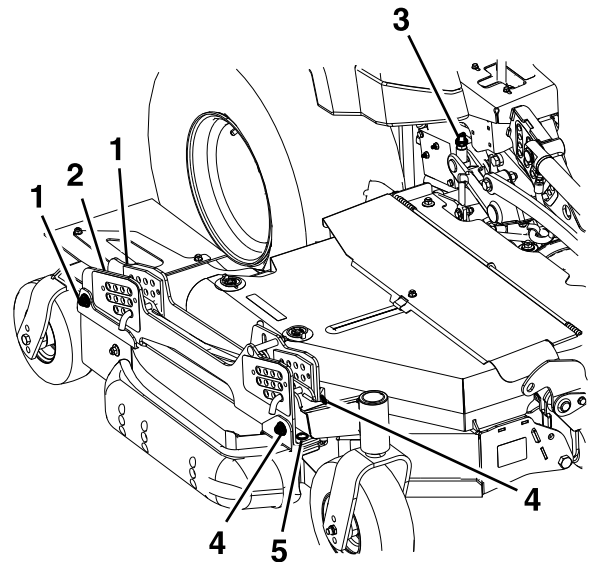

Figure 77
3. The left and right wing decks have blade height adjustments with front and rear adjustment points. To adjust the wing-blade height, first loosen the front and rear height-of-cut hanger mounting nuts. There are 4 locations (2 on each side of the channel) as shown in Figure 77.
- If the deck is too low, tighten the front height-adjustment bolt (Figure 77) by rotating the bottom nut clockwise.
- If the deck is too high, loosen the front height-adjustment bolt (Figure 77) by rotating the bottom nut counterclockwise. Fine-tune the rear adjusters as required.
Adjust the rear wheel height (Figure 77) so that the rear wheel lightly touches the ground with minimal pressure.
4. Measure the back of the wing blades. If either has less than 1.5 mm (1/16 inch) rake, raise the rear of the deck by tightening the left and right rear adjustments (Figure 77) until all 4 blades have a minimum of 1.5 mm (1/16 inch) rake. Adjust the rear wing wheels so that they lightly touch the ground with minimal pressure. Tighten all 4 rear hanger-mount locations (Figure 77).